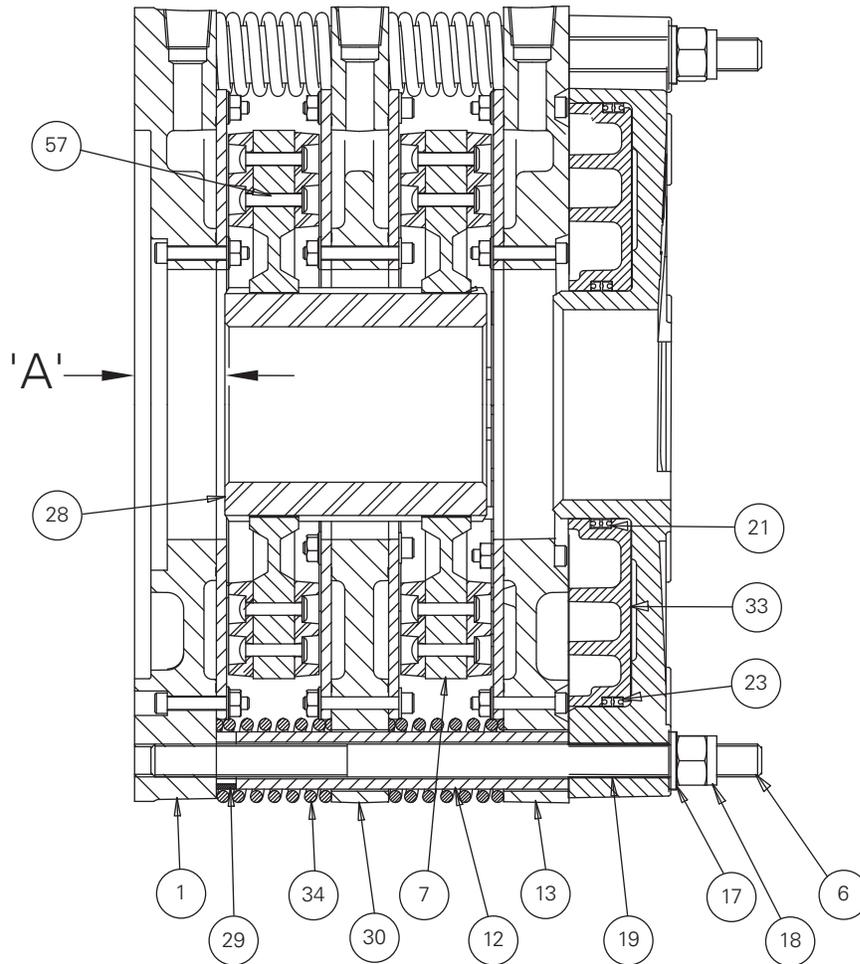

Figure 1
1.2.1 Referring to Figure 1, the gear (28) is mounted on the shaft which is to be stopped and the WCB2 tensioner/brake assembly is attached to the machine frame or a reaction bracket.
"A" dimension on Figure 1 & 2 inches (mm)
2.1.4 Refer to Table 3 for the setup dimension between the WCB2 tensioner/brake assembly's mounting surface and the end of the gear (dimension "A" on Figure 1). Gears should be positioned to ensure that when the WCB2 tensioner/brake assembly is mounted the disc splines will not overhang the end of the gear when components are in both new and worn conditions. The gear is typically bored and keyed for a resulting Class FN2S interference fit for inch shafting and ISO System S7h6 for metric shafting. Contact Airflex Application Engineering for specific recommendations.
2.2.4 Heat the gear uniformly to 250°F (121°C) to expand the bore and ease assembly. Press the gear onto the shaft, making sure that the dimension between the gear and the WCB2 tensioner/brake assembly mounting surface ("A") is maintained. See Figure 1 and Table 3. Allow the gear to cool.